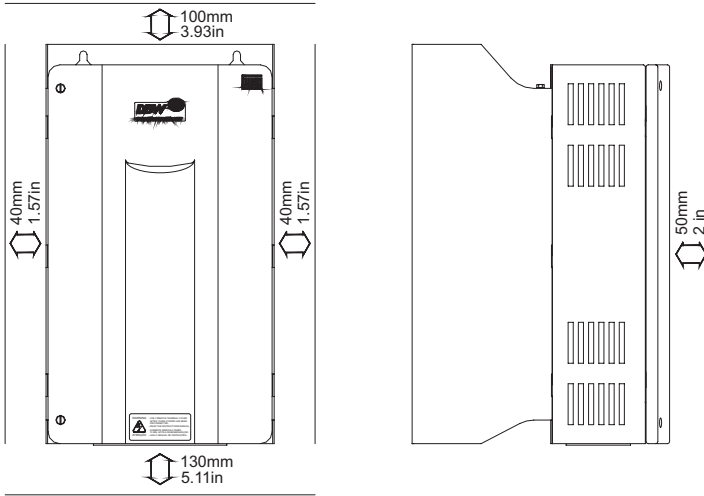

Figure 1: Free Spaces for Cooling
- Step 2** Install the braking module on the vertical position and leave free space around it, as indicated in figure 1 ;